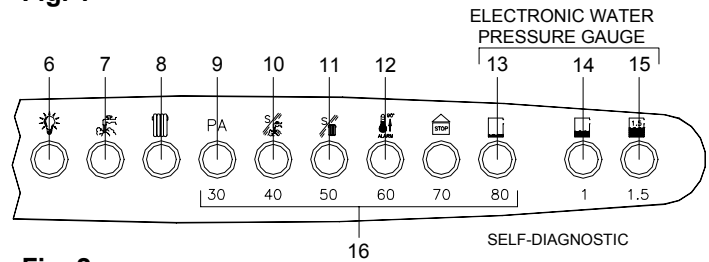

Fig. 2
- C. Insert the thermostat wires (fig.2) one in terminal TA and the other in the one next to it occupied by bridge PT which you have just moved.
SELF-DIAGNOSTIC LEGEND (see fig. 2)
- fill the system until a pressure of 1.5 bar has been reached (light no. 15 ON; see fig. 2) and then close the tap on the filling loop;
- before starting up the boiler the water pressure must be checked again; if this is seen to be below 0.5 bar (light no. 13 flashes; see fig. 2), bring it back up to 1.5 bar (light no. 15 ON; see fig. 2) and close the tap on the filling loop
- check the pressure in the system: if this has gone down and LED 13 (see fig. 2 pag. 10) comes on restore pressure;
- set selector switch 1 to either the ☼ summer or ❄ winter symbols (see fig.1 pag. 10); make sure that no. 6 light is ON (see fig. 2 pag. 10). The automatic ignition system will turn the burner on. It may be necessary to repeat the procedure a few times to purge air from the pipes. To repeat the ignition procedure press release button 2 (see fig.1 pag. 10) and then try the ignition procedure once again. If the boiler does not start, press the reset button 2 (see fig. 1 pag. 10). **IMPORTANT** should the boiler fail to ignite wait 3 minutes before pressing button again.